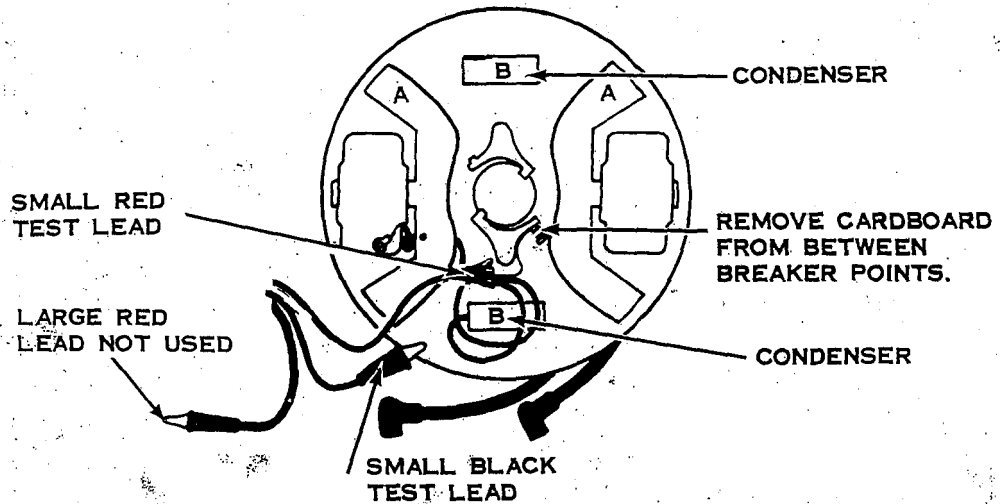

Figure 16
2. Connect small red test lead to body of condenser. Point B see illustration Fig. 16.